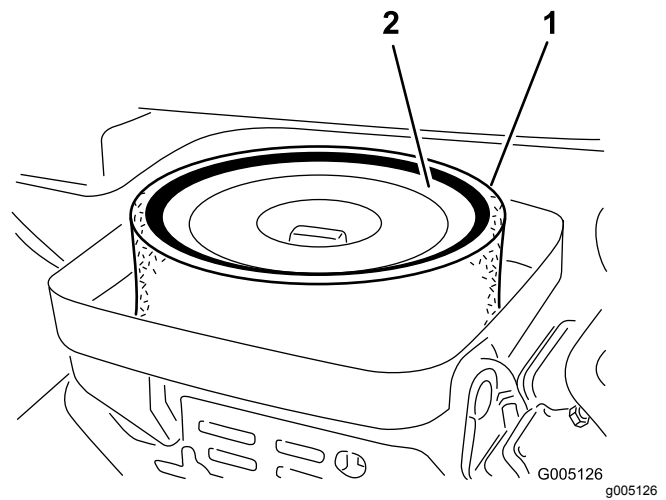

Figure 45
3. If the foam element is dirty, remove it from the paper element (Figure 45). Clean it thoroughly, as follows: